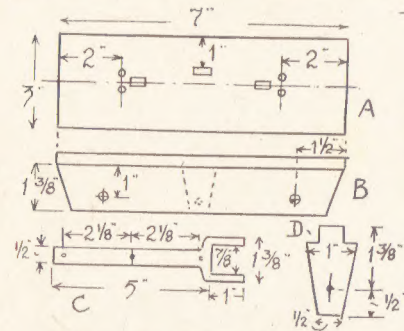

Fig. 1—The main platform parts
The body parts are shown grouped together in Fig. 1. The pecking board (H) can be cut from $\frac{3}{8}$ in. deal. Run a line along the middle and on this bore two pairs of $\frac{1}{4}$ in. holes, just $\frac{1}{4}$ in. apart, for the chicks to be fixed in. About $\frac{1}{4}$ in. in front of these, and between them, cut $\frac{1}{4}$ in. by $\frac{1}{2}$ in. slots for the operating cords. In the centre of the board, where shown, cut another $\frac{1}{4}$ in. by $\frac{1}{2}$ in. slot for part (D) to fit in.